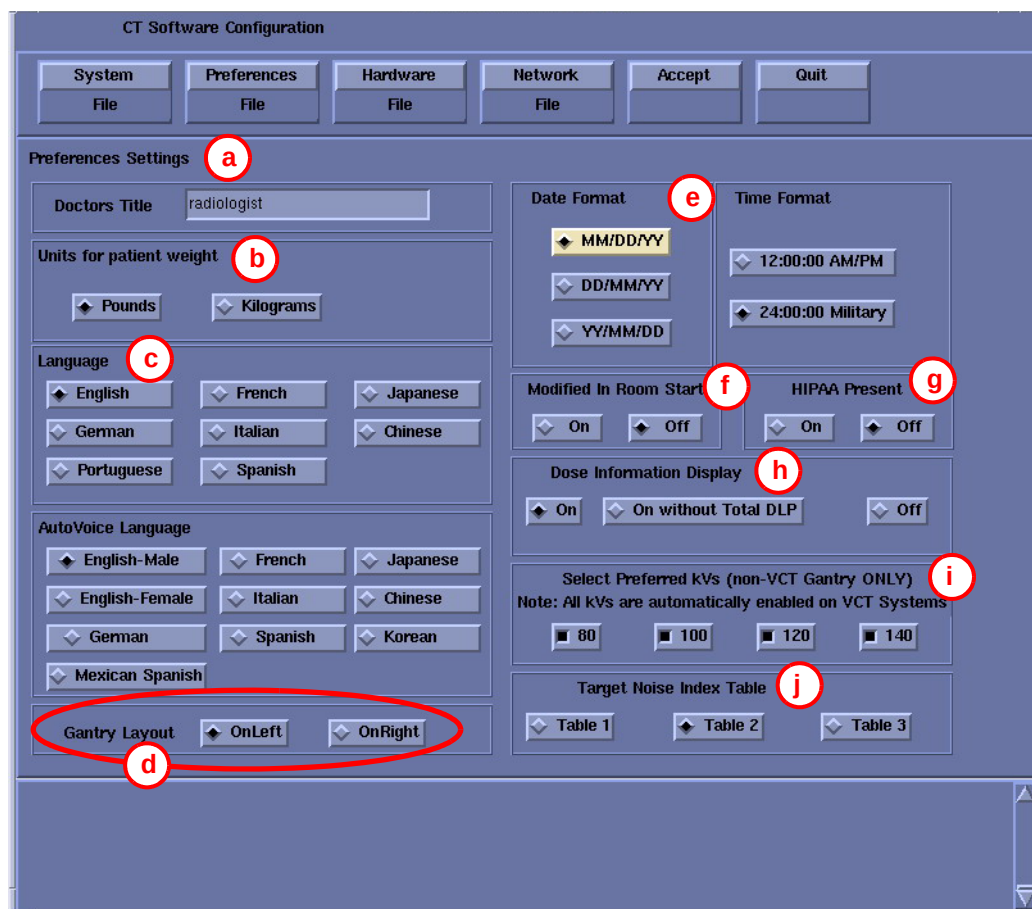

Figure 5-12 Preferences Setup Screen
- 5.) Select the PREFERENCES button to display the Preference Settings Screen as shown in Figure 5-12.
- 6.) Regenerate Database (refer to Figure 5-12) determines whether the Scan Database will be regenerated during reconfiguration. You should select NO.